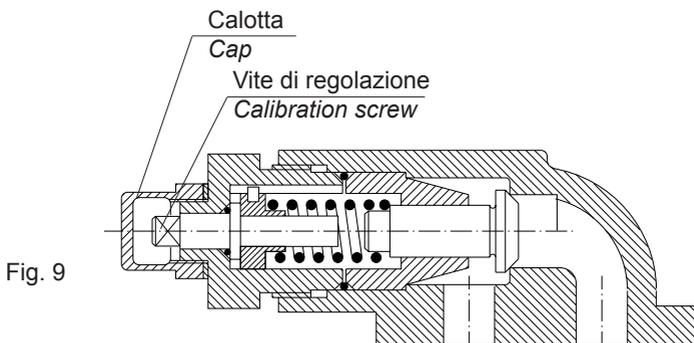
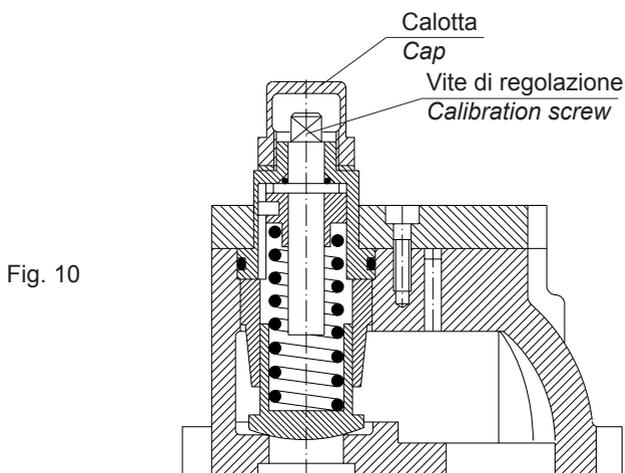

Fig. 9
Fig. 10
13.2 – REGOLAZIONE DEL BY-PASS PER POMPE PQ 30-400 PBV (FIG. 9) e PQ 450-7000 PBV (FIG. 10)
13.2 – CALIBRATION OF THE OVERPRESSURE VALVE (BY-PASS) FOR PUMPS PQ 30-400 PBV (FIG. 9) AND PQ 450-7000 PBV (FIG. 10)